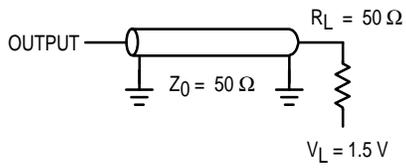

Figure 1A
Output Load ..... See Figure 1A Unless Otherwise Noted
- A latched write cycle is defined by DL transitioning low during the write cycle and satisfying the specified hold time for the rising edge of clock (K).
- Into rated load of 85 pF equivalent resistive load (see Figure 1A).
- This is a synchronous device. All synchronous inputs must meet the specified setup and hold times with stable logic levels for all rising edges of clock (K) or falling edges of data latch enable (DL).